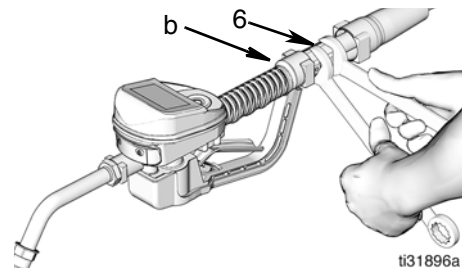

FIG. 17
7. Reinstall swivel fitting (6) in inlet. Torque fitting to 20-25 ft.-lb (12-34 N•m).
8. Apply thread sealant to the male threads of the hose fitting. Thread the hose fitting (b) into the metered dispense valve swivel (6). Use two wrenches working in opposite directions, to tighten securely (FIG. 17).